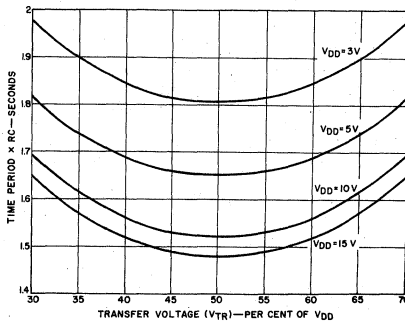

Fig. 3—Discrete RC-oscillator time period as a function of transfer voltage.
Equation (1) shows that the period of the multivibrator,  $T$ , is sensitive to changes in  $V_{DD}$ , as illustrated by the graph of time period,  $T$ , vs transfer voltage as a function of  $V_{DD}$  in Fig. 3. In addition to the strong dependence of actual time period on the  $V_{DD}$  chosen, the graph also illustrates that, for a given  $V_{DD}$ , a full transfer voltage spread of 30 to 70 per cent of  $V_{DD}$  (unit-to-unit worst-case variations) yields a change in time period of about 10 per cent from the nominal 50-per-cent transfer-voltage percentage values.